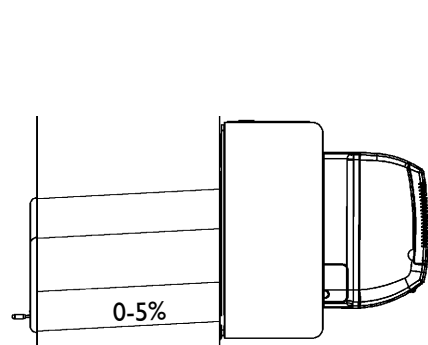

fig. 11
9. Complete installation by assembling the ABS frame that will mask the installation opening in the wall and then insert a pad of 29+29 sound absorption matting between the external frame and the plate (see Figure 11).
IMPORTANT: make sure that the downward inclination of the condensate drainage outwards is in the range of from 0 to 5% (fig. 11): open the unit's front panel and slowly pour water into the internal unit's condensate collection tray and then make sure that the pipe prepared above drains this water correctly.